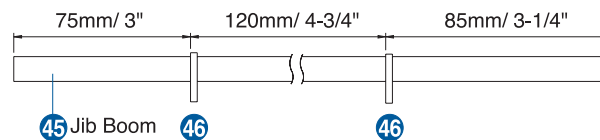

Fig. 25
7. Measure the jib boom and mark at the places indicated in Fig. 25.